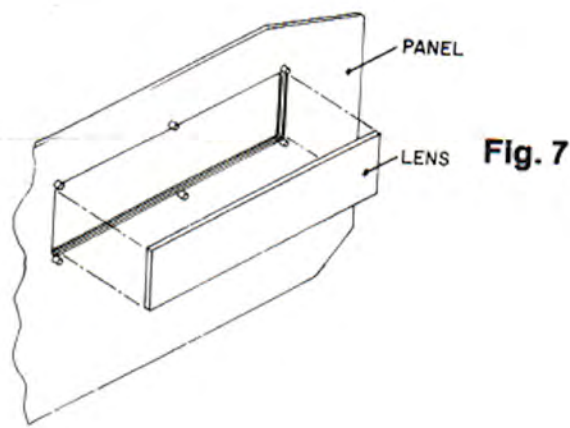

Fig. 7
- [X] Locate the front panel and the red lens. Insert lens into window on Front Panel and melt the six bosses on the Front Panel to the lens, taking care to not damage the lens. (FIG. 7)